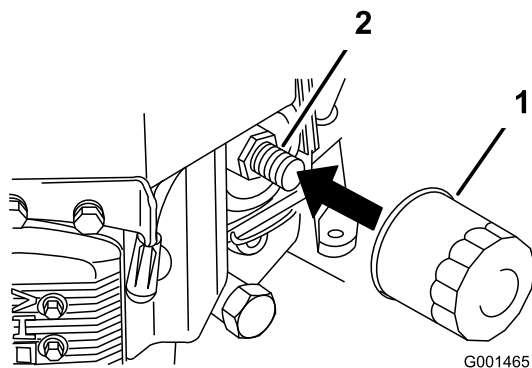

Figure 29
2. Remove the old filter (Figure 29).
3. Apply a thin coat of new oil to the rubber gasket on the replacement filter (Figure 29).
4. Install the replacement oil filter to the filter adapter, turn the oil filter clockwise until the rubber gasket contacts the filter adapter, then tighten the filter an additional 3/4 turn (Figure 29).